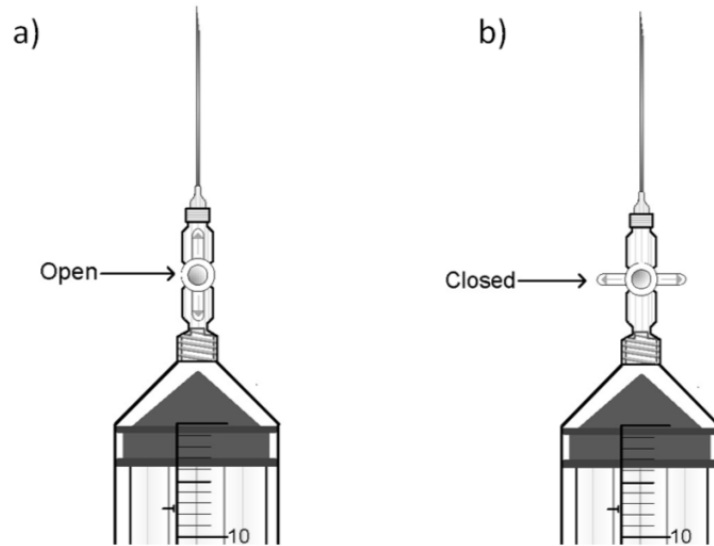

Figure 11. Example of a syringe with a stopcock with attached needles in the a) "open" and b) "closed" positions
4. After shaking, place needle with needle cover still attached on 1-way stopcock. Once needle is attached, remove the plastic covering. Holding the syringe upright, open the stopcock (Figure 11) and push a small amount of air (~0.5 mLs) through the needle to purge the air in needle.
5. With stopcock still 'open' and syringe held upright, insert the needle through the rubber septum of the gas vial (Figure 11 and **Figure 12**) and push gas into the vial. Properly evacuated vials will automatically suck in the gas. Push as much gas in as possible.